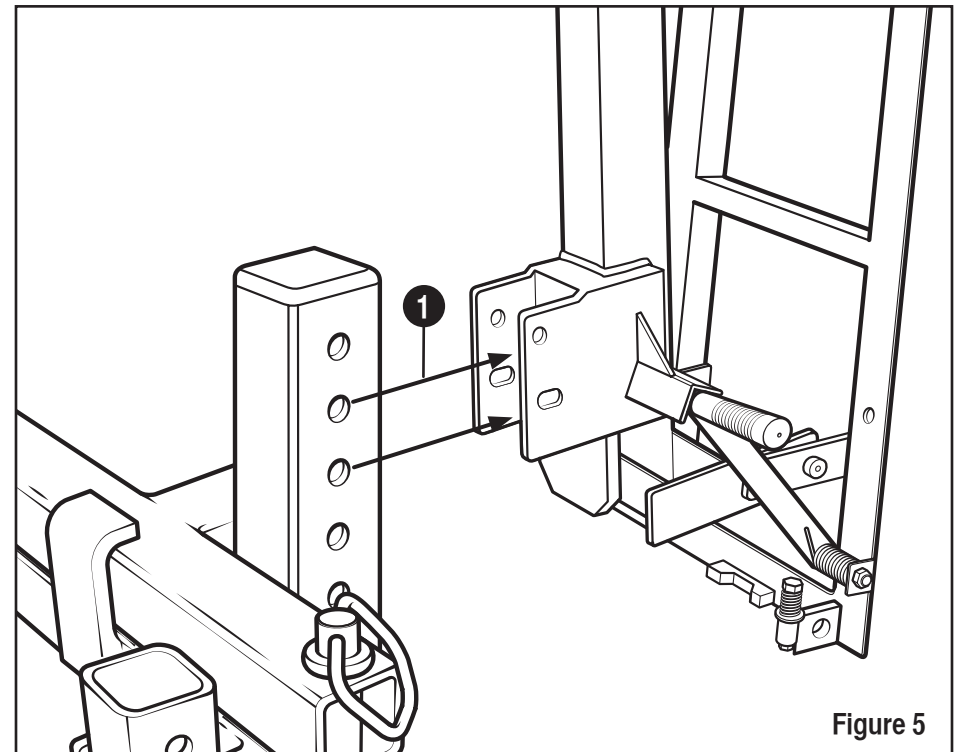

Figure 5
1. Align the holes in the Lift Assembly with the holes in the Swing Away Attachment (**Figure 5**).